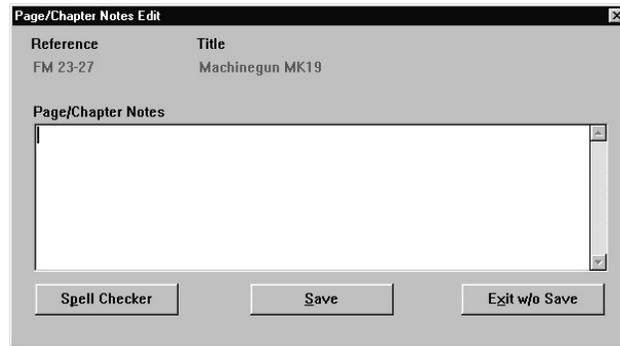

Figure 6-102. Page/Chapter Notes Edit
2. Click on **Page/Chapter**. The Page/Chapter Notes Edit memo text box (Figure 6-102) opens.